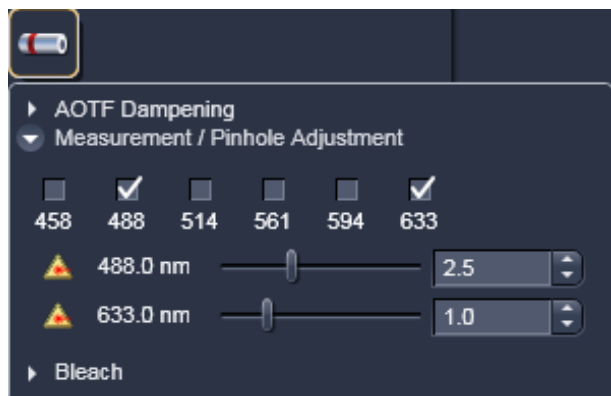

Fig. 30 Measurement / Pinhole Adjustment panel
- Press the **Measurement / Pinhole Adjustment** tab to display the laser control panel used for measurements and pinhole adjustments (Fig. 30). Press again to close the panel.